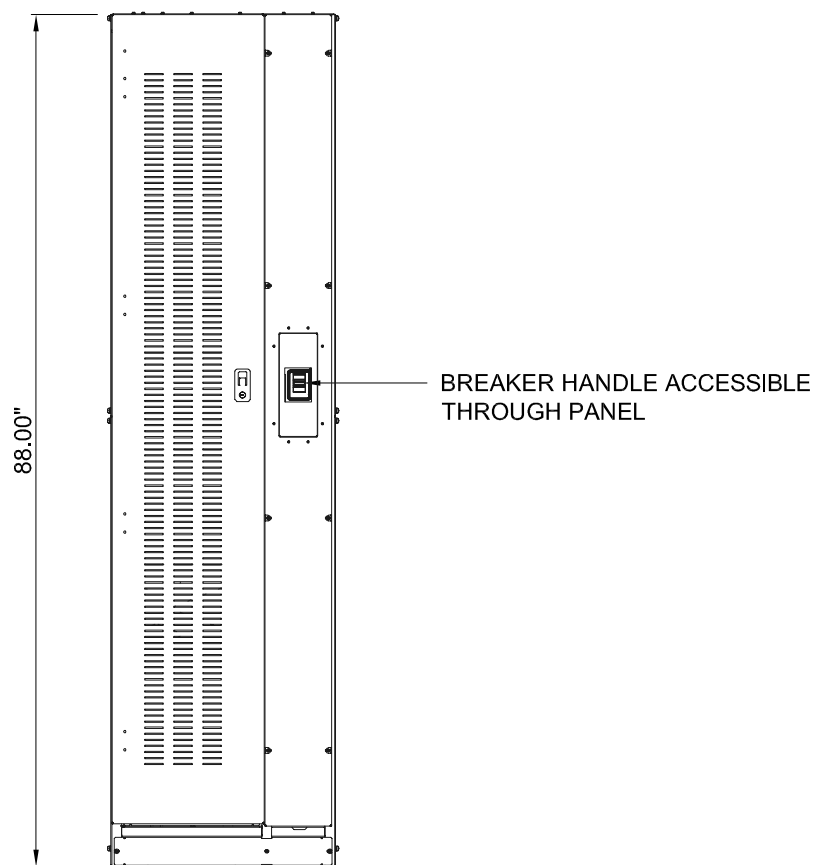

Figure 3-1: Front view of 20 module cabinet
The system environment must support the weight requirements shown in Table 3-1 and the size requirements listed in Figures 3-1 through 3-8 and accommodating the clearances listed in Table 3-2. The weight shown in Table 3-1 is the maximum weight of a fully configured cabinet and may weigh less depending on your configuration.
3. Place the forks between the bottom slats illustrated in Figures 3-1 and 3-5. Lift the cabinet with a forklift carefully. Do not tilt the cabinet more than 10 degrees from vertical.